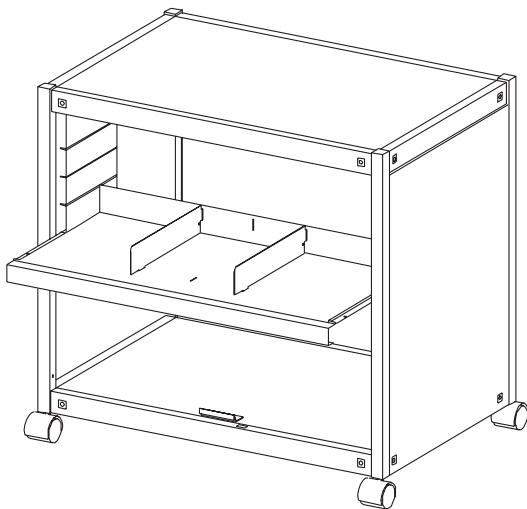

FIGURE 3
Slide the center shelf (it has a 2" front flange) into the lowest slot of the side panels as shown in **FIGURE 3**. In each corner of the shelf, drop the cotter pin (EE) into the shelf's hole as shown in **FIGURE 4**. This will keep the shelf in place.